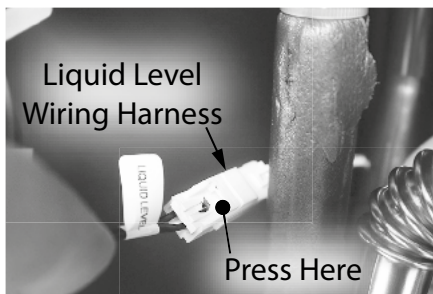

Figure 5 - Liquid level wiring harness location
- 19 Trace the black wires from the condensate trap to the wiring harness marked "LIQUID LEVEL" and disconnect them. See Figure 5.